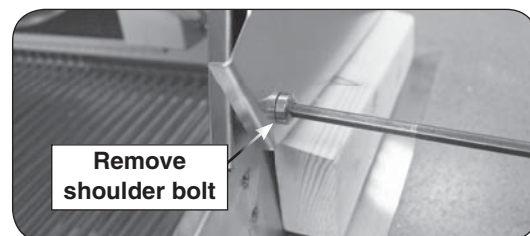

Fig. 2-6 Remove shoulder bolt
5. While holding the lid up right with one hand, remove the existing shoulder bolt using a $1/4"$ hex key (see Fig. 2-6). Once the bolt is removed, slowly lower the lid onto the support block.